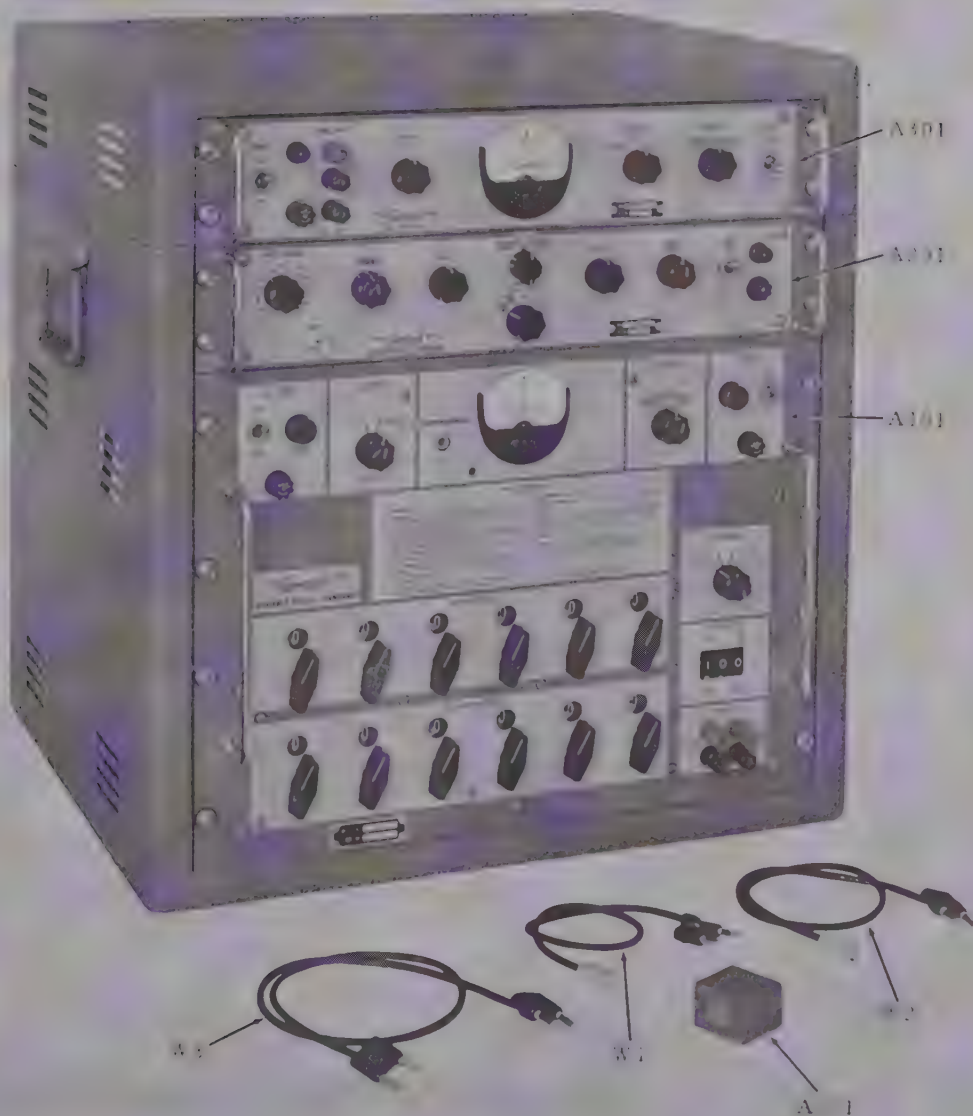

Figure 2-1. Variable Phase Standard Model VPS-1/QS-1/NI-4
f. Replace quadrature network with quadrature test network A401, figure 2-1.
2-2. This section lists and illustrates parts for the three units of the variable phase standard. Figure 2-1 locates the major components and is keyed to parts lists and illustrations containing the detail parts.
KEY TO FIGURE 2-1